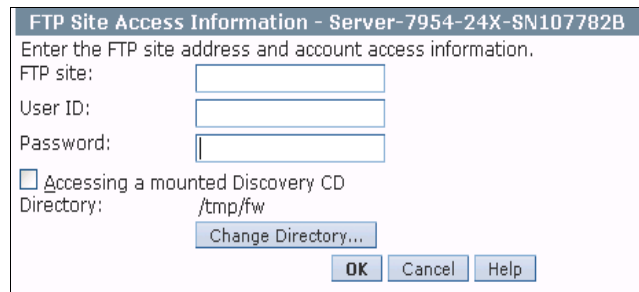

Figure 7-123 Enter the FTP server access information
- The previous operation returns to the FTP Site Access Information with the updated path information, as shown in Figure 7-123. Enter the FTP site IP address, user ID, and password information, then click **OK**.